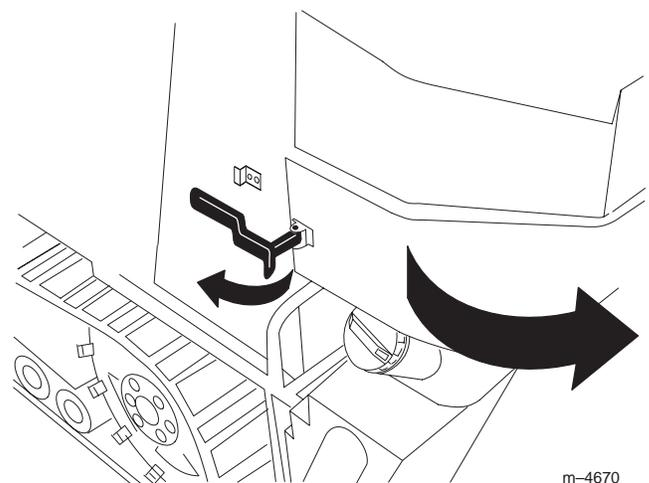

Figure 18
1. Pull out and forward on the latch to remove it from the locking bracket on the traction unit frame (Fig. 18).
2. Swing the rear access cover to the right (Fig. 18).
2. Place the latch over the locking bracket (Fig. 18).
3. Pull the latch rearward and push it in to lock it in place (Fig. 18).